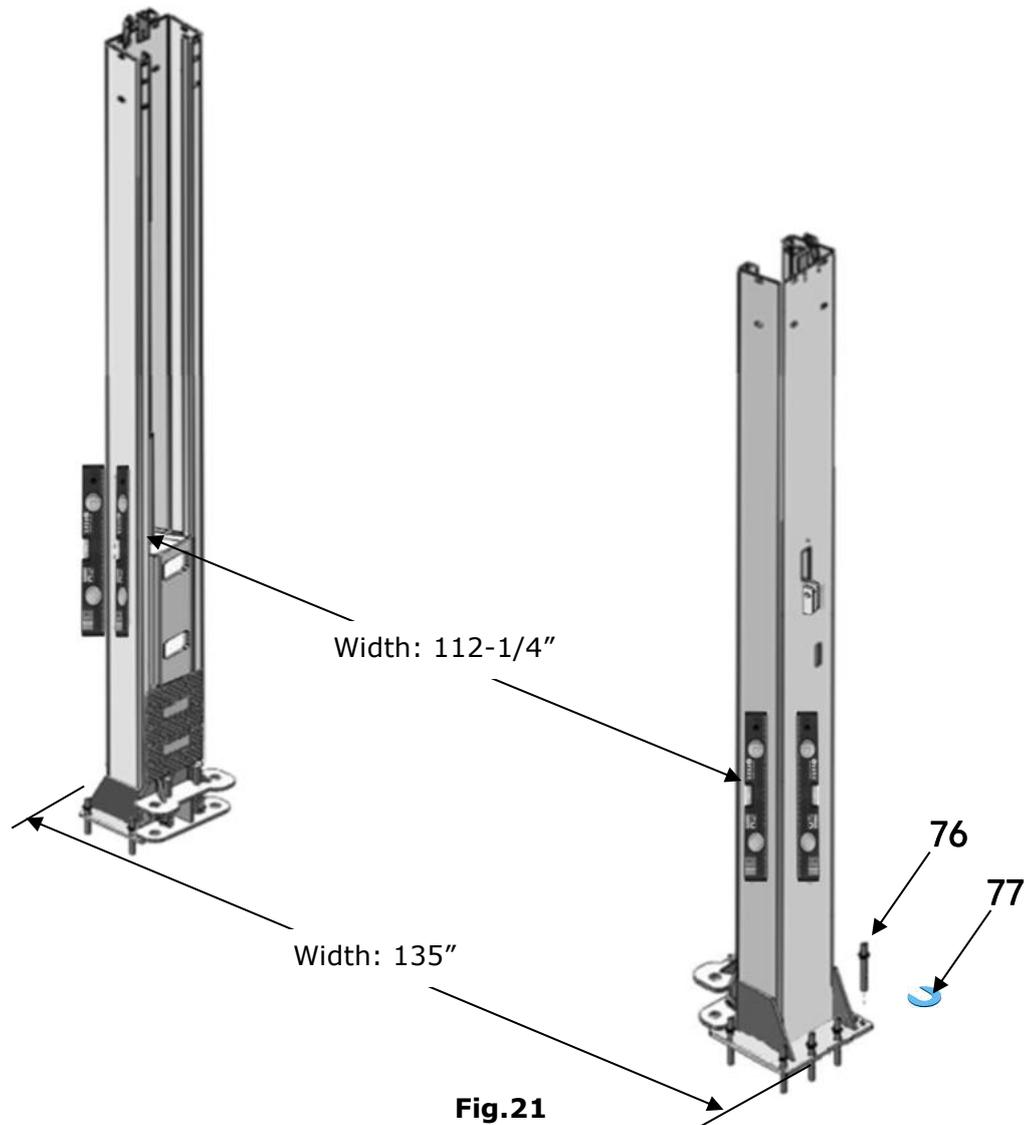

**Fig.20**
2.1 Place the two columns in parallel on the ground of the installation position, and determine the installation position of the power-side column according to the condition of the installation site. Under normal circumstances, the power-side column is installed on the right side of the entering direction; when installing the outer column, it should be installed according to the height of the workshop. When the height is not more than 168", the mounting column is selected to install the lower position; when the height is more than 168", the mounting column can be installed with the high position. (See Fig.20)